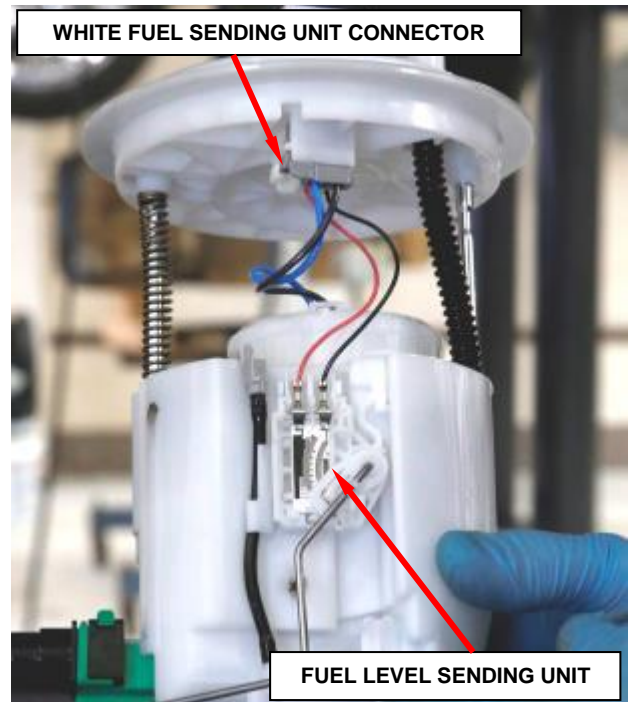

Figure 10 – Fuel Sending Unit Connector
- 25. Disconnect the white fuel level sending unit electrical connector (Figure 10).